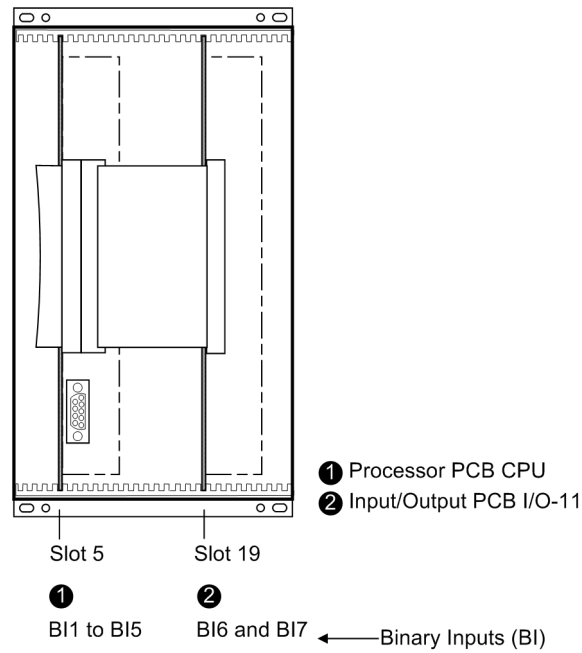

Figure 3-3 Front view after removal of the front cover (simplified and with minimized zoom)
The order of the boards is shown in Figure 3-3.
- Disconnect the ribbon cables between the processor board C-CPU-2 (No. 1 in Figure 3-3) and the input/output board I/O-11 (No. 2 in Figure 3-3).
Slot of input/output board C-I/O-11: No. 2 in Figure 3-3.
The interface modules are located on the processor board C-CPU-2 (No. 1 in Figure 3-3).